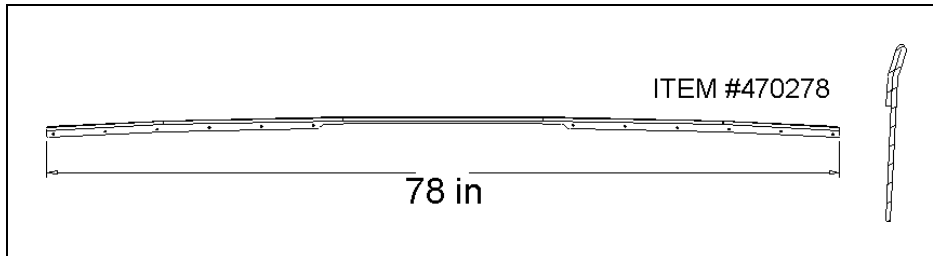
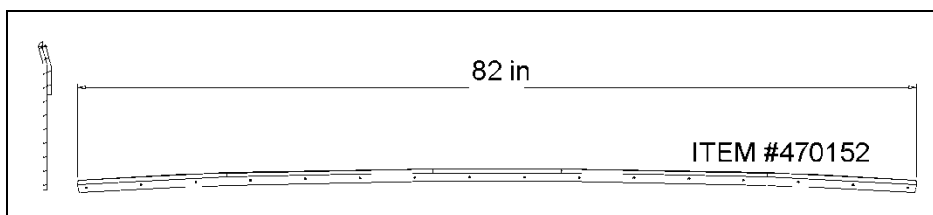

FIGURE 38: X3 SERIES UPPER DRIP EDGE
FIGURE 39: X3 SERIES LOWER DRIP EDGE
1. Identify the drip edge #470278 and #470152 (FIGURE 38 & FIGURE 39).